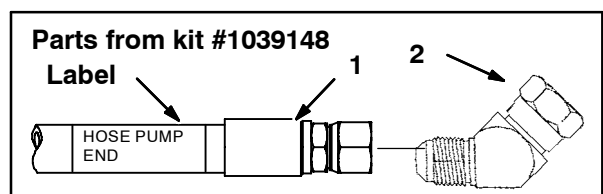
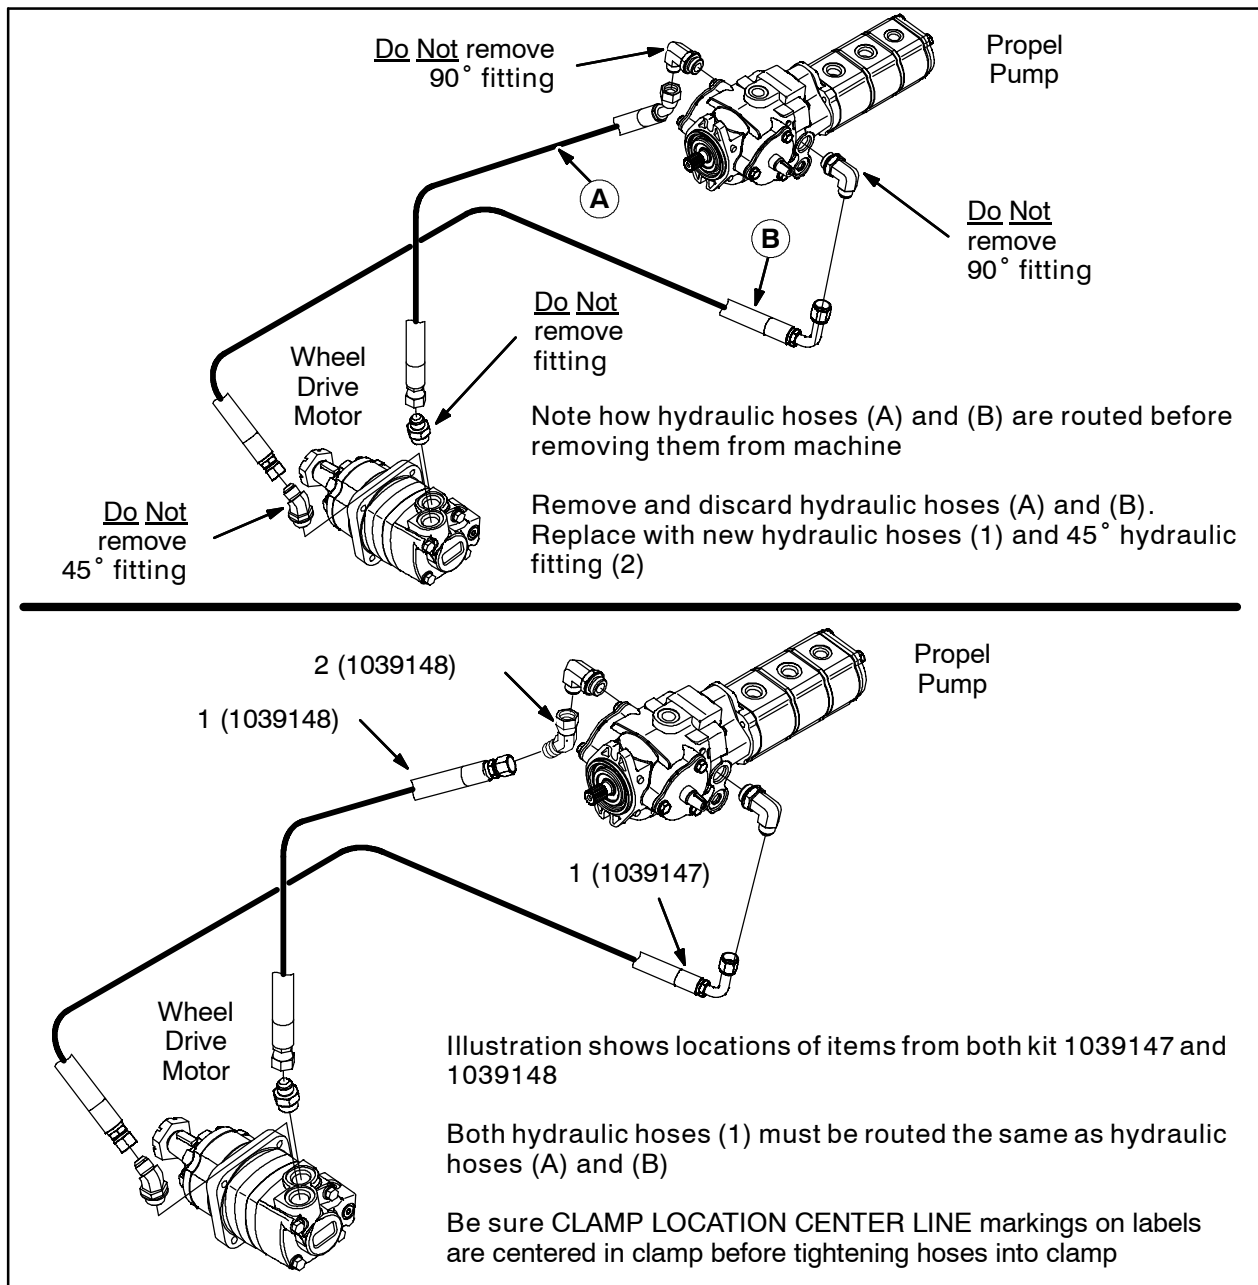

FIG. 5
FIG. 6
11. **Loosely** thread the 45° hydraulic fitting (2) from kit 1039148 onto the end of the hydraulic hose (1) labeled HOSE PUMP END from kit 1039148. Refer to Fig. 5.
12. Install the 45° hydraulic fitting (2)/hydraulic hose (1) from kit 1039148 onto the 90° fitting where hydraulic hose (A) was located. Refer to Fig. 5 and Fig. 6.
15. Tighten both hydraulic hoses (1) to the fittings on the wheel drive motor. Refer to Fig. 6.
16. Tighten the 45° hydraulic fitting (2) from kit 1039148 onto the hydraulic hose (1). Refer to Fig. 5 and Fig. 6.
17. Tighten 90° fitting on hydraulic hose (1) onto the 90° fitting where hydraulic hose (B) was located on the propel pump. Refer to Fig. 6.
20. Start and test the machine. Observe to newly installed fittings (2) and hoses (1) for leaks.